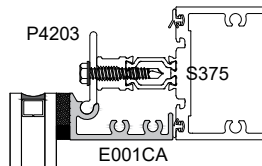

Fig. 63.2
- STEP 2: Roll head of frame toward back member support framing as shown at Fig. 63.2.
- STEP 4: Install and attach head anchor clips P4203, 12" o/c, maximum 2" from ends. See Fig. 63.2